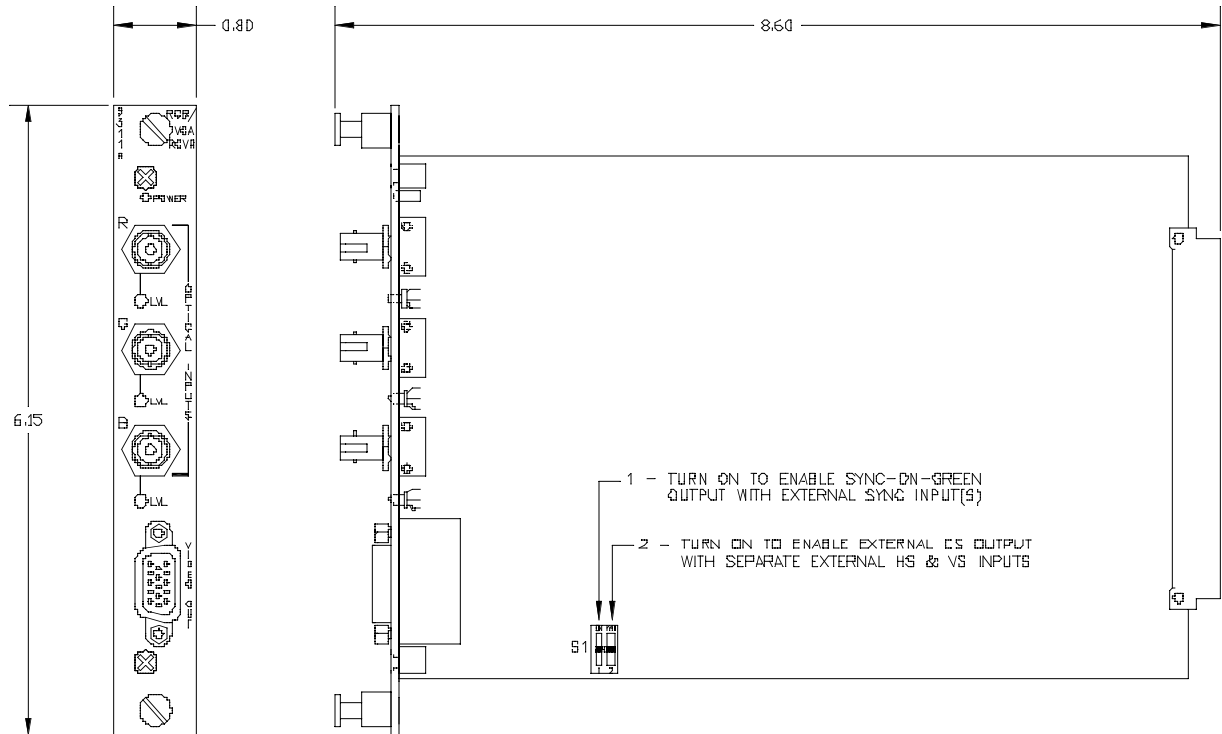

Figure 2 – 9311R DIMENSIONS AND SWITCH LOCATIONS
On the receiver a dipswitch (position #1) allows the user to select a Sync-on-Green output from the receiver in the absence of a Sync-on-Green input. See Figure 2 for the location of the switch on the circuit card. When switch position number one (1) is OFF the receiver will output Sync-on-Green from the Green output only if the transmitter has a Sync-on-Green input with no external sync input. If there is an external sync input there will be no sync signal on the Green output. When this switch is in the ON position sync will be added to the Green output if an external composite sync (CS) is input to the transmitter. This will allow for the use of Sync-on-Green monitors when only an external composite sync (CS) or external horizontal (HS) or vertical syncs (VS) are available at the transmitter.